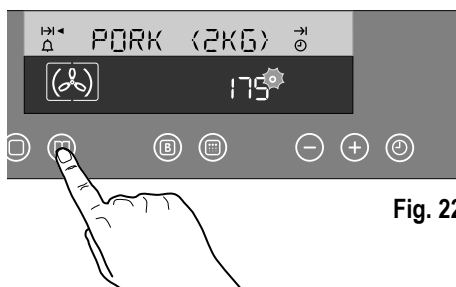

Fig. 22
2. Touch the "Recipe Selection Function" control : the upper section of the display will show the name of the recipe, and symbol  will come on near the "Cooking Duration" symbol . This means that a cooking duration is already set in the memory. The lower section will show the symbol of the pre-set cooking function and the pre-set cooking temperature. Symbol "●" will flash at the right hand of the temperature display (Fig. 22).